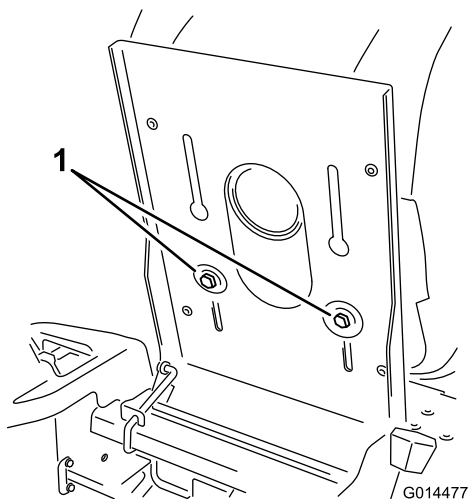

Figure 22
1. Raise the seat, and loosen the adjustment bolts just enough so that the seat can move (Figure 22).